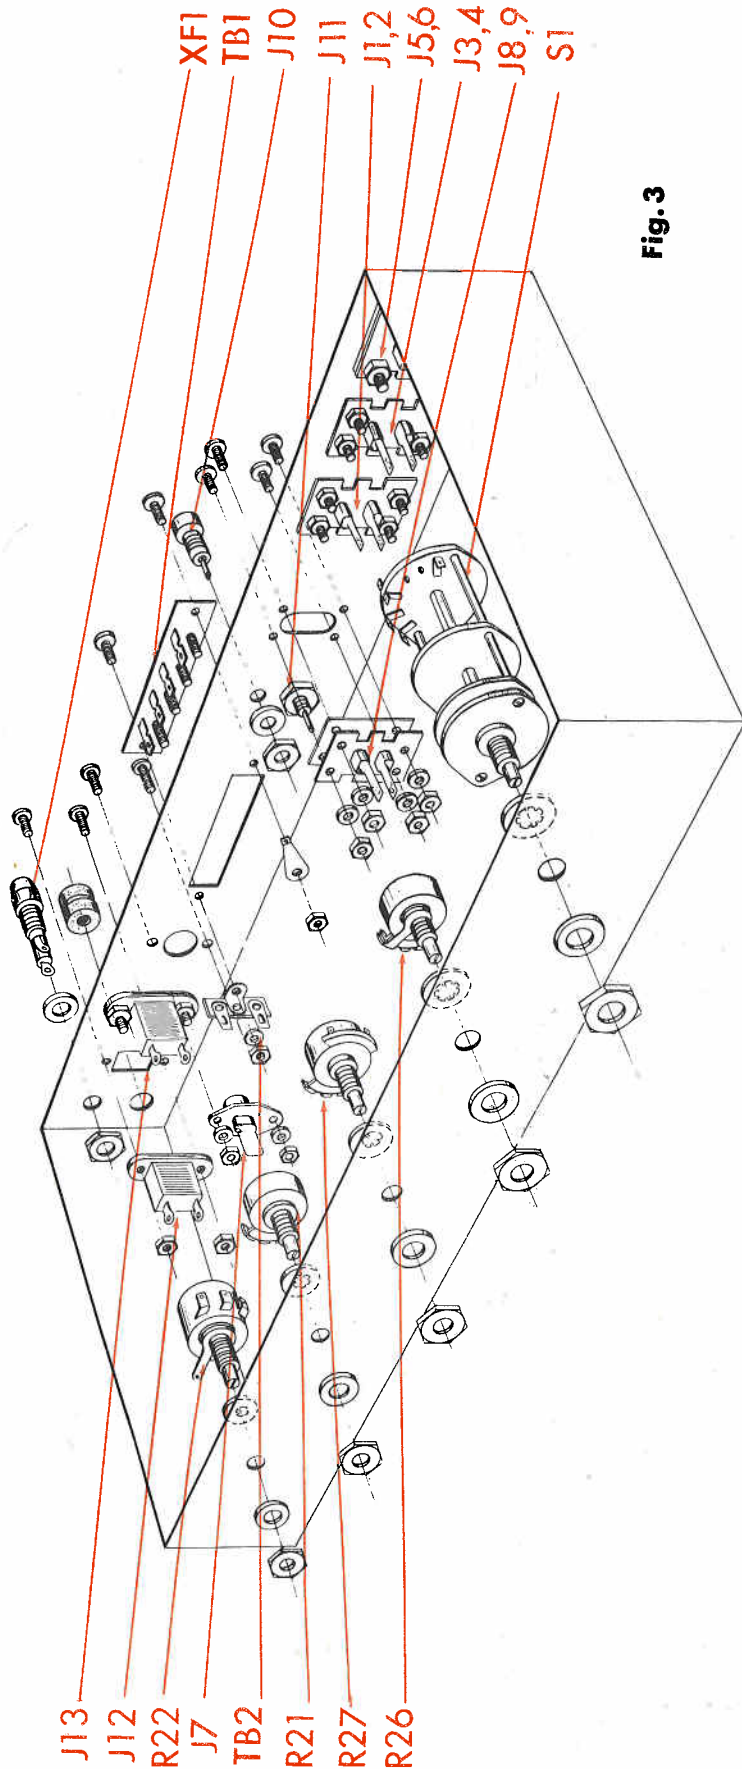

Fig. 3
1. (✓) Fig. 3. Mount the 500KΩ pot with switch, R22; the 1MΩ pot, R21; the 500KΩ pot with printed circuit plate PC2, R27; and the 100KΩ pot, R26. Mount a 3/8" hex nut on the bushing first. (This nut to be adjusted for proper mounting. Next, follow with a pot ground lug on R26 and R22. Complete assembly as shown in diagram with a 3/8" lock washer, 3/8" flat washer and 3/8" hex nut for each unit.
2. (✓) Fig. 3. Mount the fuse holder through the bottom of the two holes at the rear of the chassis, opposite the pot with the switch. Use the rubber washer and the nut provided. Do not tighten nut too much or holder will crack.
3. (✓) Fig. 3. Force a 3/8" rubber grommet through the hole above the fuse-holder.
4. (✓) Fig. 3. Mount the two convenience outlets, J12 and J13 as shown. Use two #6-32 X 1/4 screws and two #6 hex nuts and two #6 lockwashers.
5. (✓) Fig. 3. Mount the single jack, J7, as shown. Use two #6-32 X 1/4 screws, two #6 lockwashers and two #6 hex nuts.
6. (✓) Fig. 3. Mount the terminal board, TB1, as shown. Use two #6-32 screws,
7. (✓) Fig. 3. Mount the two pin jacks (METER) J10, J11, with the hardware supplied on same. Remove the nut and fibre washer from the threaded portion of the jack. Pass same through hole provided. Attach the fibre washer and hex nut on the inside of the chassis. The small shoulder on the fibre washer should seat itself into the mounting hole. If the assembly is properly made the lug on the jack will be insulated from the chassis.
8. (✓) Fig. 3. Mount the two dual input jacks, J8-9 and J5-6 as shown. Use four #6-32 screws, four #6 lockwashers and 4 #6 hex nuts. Use an insulating bakelite between the dual jack and the chassis.
9. (✓) Fig. 3. Mount the remaining two dual input jacks, J1-2 and J3-4 as shown. Use four #6-32 screws, four #6 lockwashers and four #6 hex nuts. Do not use any insulating bakelite.
10. (✓) Fig. 3. Mount the selector switch, S1, as shown. Use a 3/8" lockwasher, a 3/8" flat washer and a 3/8" hex nut.
7. (✓) Fig. 3. Connect a 3/4" piece of bare wire from C24C (S) to C24D (C).